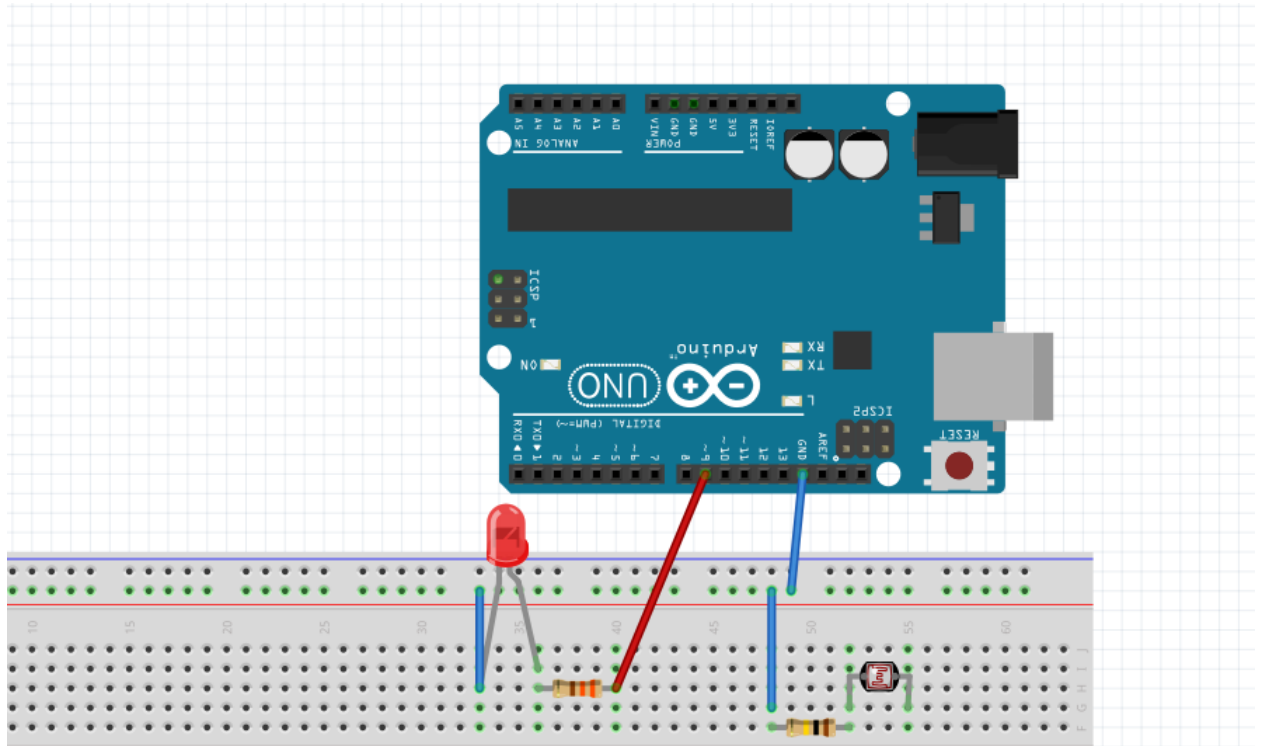

Figure 1.4
3. Next, we will connect one leg of our 100k Ω to our LDR and ground the other as shown in figure 1.4.